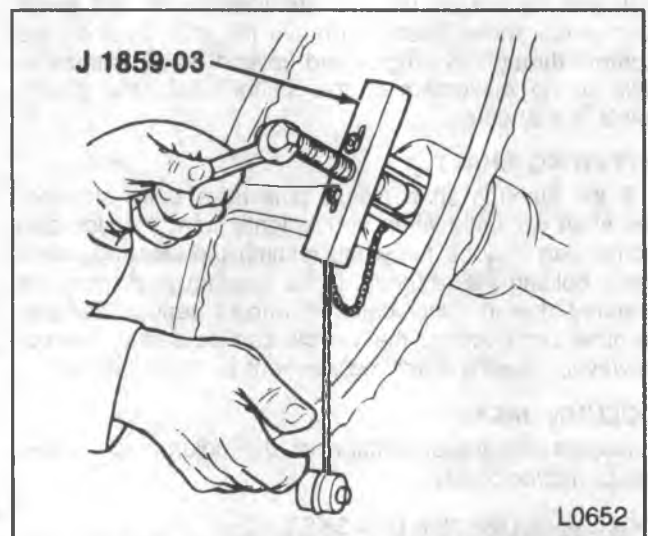

Figure 4—Steering Wheel Removal
Remove or Disconnect (Figure 4)
5. Steering wheel. Use J-1859-03 (figure 4). Do not hammer on the puller, or damage could result to the steering column.